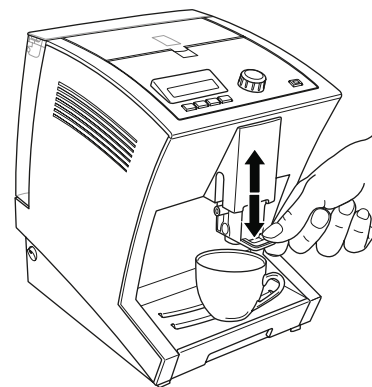

Fig. 5: Placing the cup underneath and adjusting the dispenser height.
- Place a cup on the cup tray below the coffee-milk dispenser of the device and adjust the height of the coffee-milk dispenser to the cup height (Fig. 5).
2. Place a cup on the cup tray below the coffee-milk dispenser of the device and adjust the height of the coffee-milk dispenser to the cup height (Fig. 5).